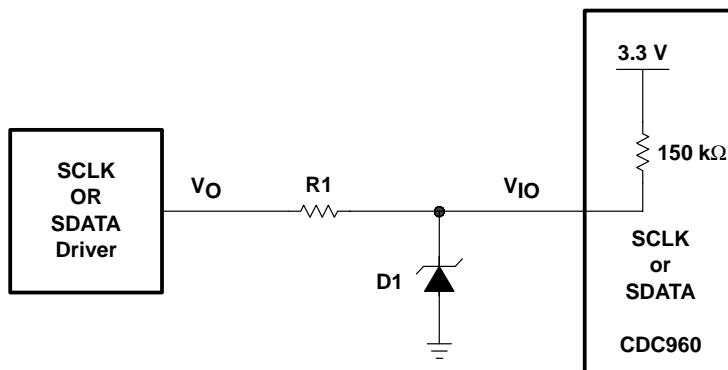
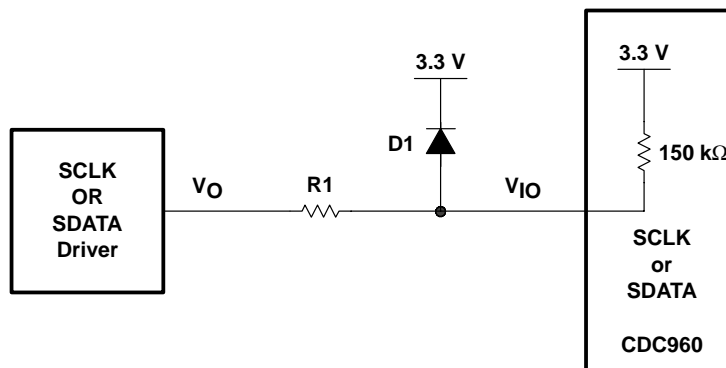

Figure 1. SCLK SDATA Connection to 5-V SMBus Using Zener Diode
Figure 2. SCLK SDATA Connection to 5-V SMBus Using Clamping Diode to V_{DD}
Zener diode D1 in Figure 1 is chosen such that the Zener voltage (V_{ZK}) cannot exceed 300 mV above V_{DD} of the CDC960. The minimum value of V_{ZK} must be greater than 2.1 V to meet minimum requirement for V_{IH} of the CDC960. The value of R1 is chosen to satisfy requirements both for I_{OH} of the driver of SCLK and SDATA and for V_{OL} and I_{OL} of SDATA of CDC960.
Diode D1 in Figure 2 should have a small forward voltage (V_F). Ideally, we want V_F to be less than 300 mV to meet the input voltage requirement of the CDC960. International IOR Rectifier has a device (part number 10BQ015) with maximum V_F of 350 mV at 1.0 A. Using the 10BQ015 with $R1 = 150\ \Omega$, the worst-case I_{OH} is calculated using equation (4).
When using the configuration in Figure 2, the power supply is required to have a capability of sinking current. The total amount of sinking current is dependent on the overall load connected to that power supply.
Using the above interface circuitry with a high-impedance source, the available high-level voltage on the SMBus is limited to about (V_{zk}) for the configuration in Figure 1 and $(V_{DD}(\text{CDC960}) + V_F(D1))$ for the configuration in Figure 2. One has to choose which option best fits a given SMBus configuration.
Actually, the typical SMBus configuration is an open-drain configuration with pullup resistors to the corresponding power supply. It does not require a 5-V SMBus driver that has a low impedance to drive the CDC960 SMBus ports with its additional components as shown in Figure 1 and Figure 2. The external components are not needed if the pullup resistors of the SMBus are directly connected to a voltage equal to the supply voltage of the CDC960 (typically 3.3 V). This pullup resistor connection is strongly recommended.